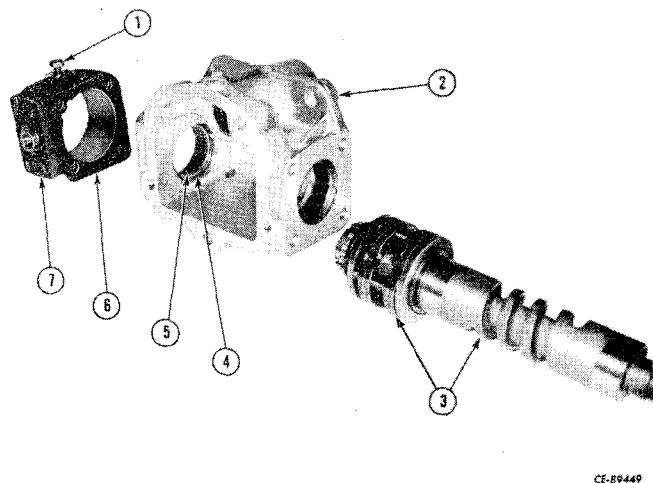

Figure 8-22
Press in bearing (5, Fig. 8-22) and install snap ring (4). Slide actuator and cam (3) into actuator end of housing (2). Install new gasket (6), actuator housing (7) and secure with retainer screw (1).